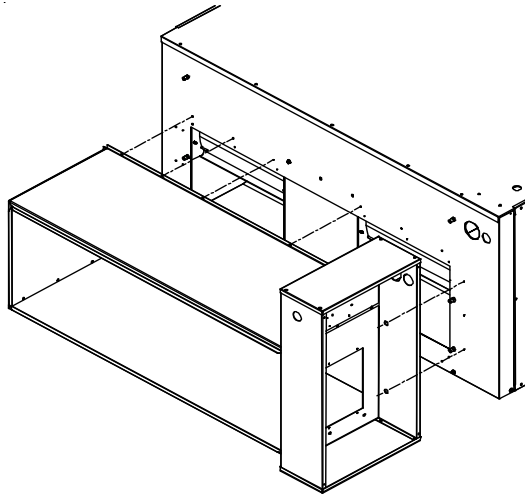

Figure 2.
- The heat kit attaches directly to the top panel (when viewed in the upflow position) of the air handler. Do not screw the heat kit into the duct flanges. Position the heat kit onto the air handler at the air discharge end with the control box orientated toward the airhandler front. See Figure 2.